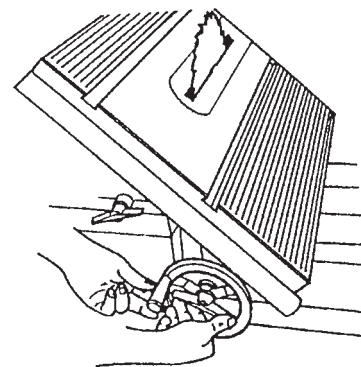

Figure C-36
34. Lower the worktable so the saw blade extends through the slot. See Figure C-36. Lock the table height.